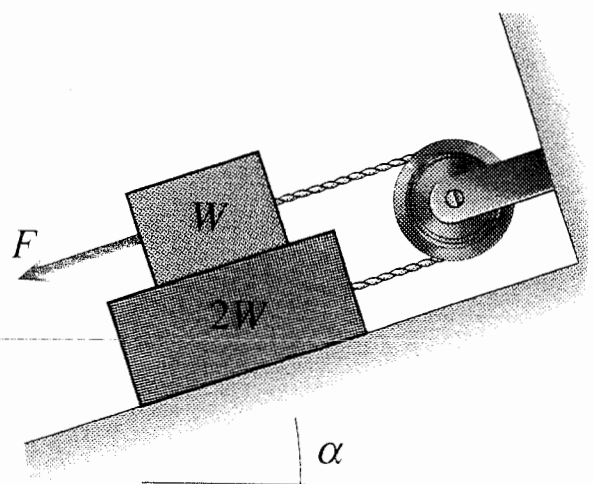

Fig. P2
- 2- The coefficient of static friction between the two boxes, shown in Fig. P2, and between the lower box and the inclined surface is  $\mu_s$ . What is the largest force  $F$  that will not cause the boxes to slip?